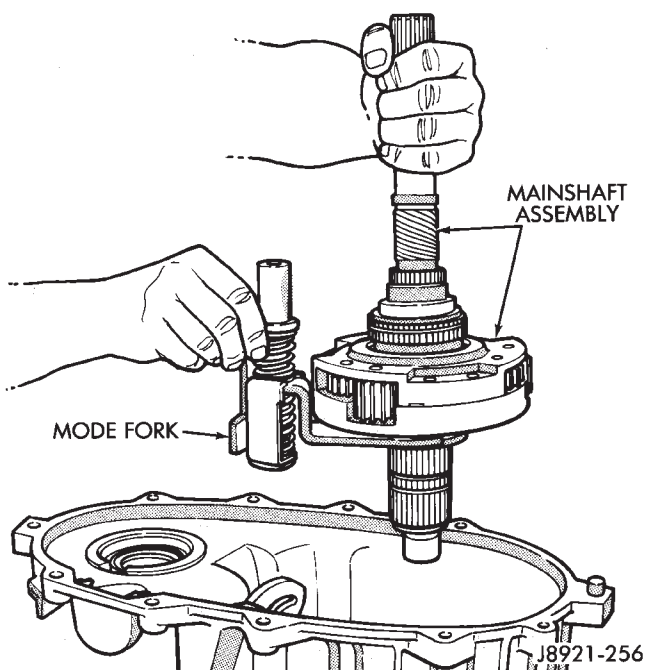

Fig. 25 Mode Fork And Mainshaft Removal
(5) Remove mode fork and mainshaft as assembly (Fig. 25).